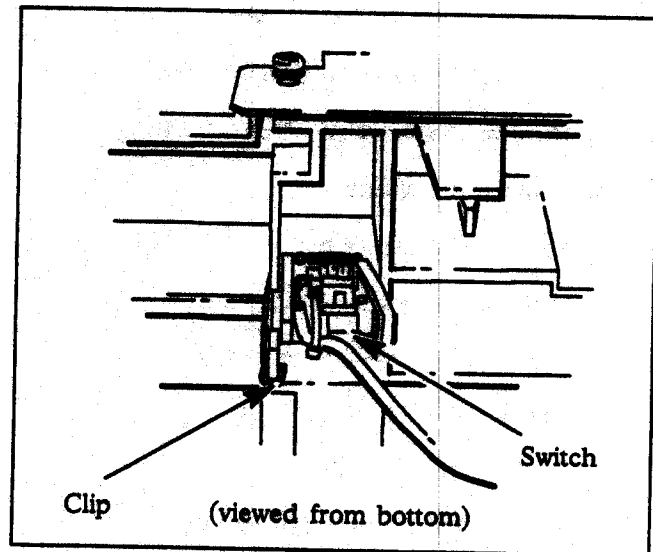

Figure 6-37. Pinch Wheel Sensor Switch Removal
- d. Note the orientation of the pinch wheel sensor switch clip and remove the clip. See Figure 6-37.